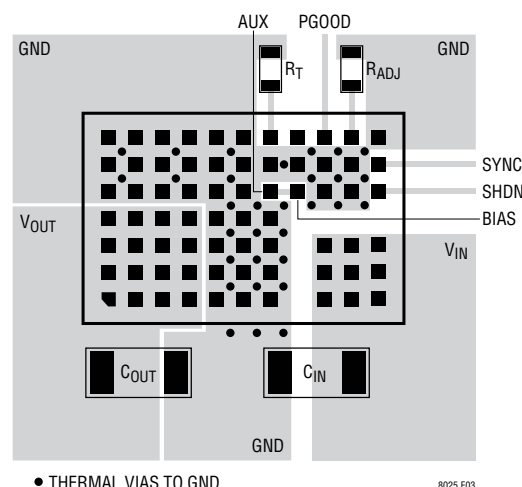

Figure 3. Layout Showing Suggested External Components, GND Plane and Thermal Vias.
Most of the headaches associated with PCB layout have been alleviated or even eliminated by the high level of integration of the LTM8025. The LTM8025 is nevertheless a switching power supply, and care must be taken to minimize EMI and ensure proper operation. Even with the high level of integration, you may fail to achieve specified operation with a haphazard or poor layout. See Figure 3 for a suggested layout. Ensure that the grounding and heatsinking are acceptable.
6. For good heatsinking, use vias to connect the GND copper area to the board's internal ground planes. Liberally distribute these GND vias to provide both a good ground connection and thermal path to the internal planes of the printed circuit board. Pay attention to the location and density of the thermal vias in Figure 3. The LTM8025 can benefit from the heat-sinking afforded by vias that connect to internal GND planes at these locations, due to their proximity to internal power handling components. The optimum number of thermal vias depends upon the printed circuit board design. For example, a board might use very small via holes. It should employ more thermal vias than a board that uses larger holes.